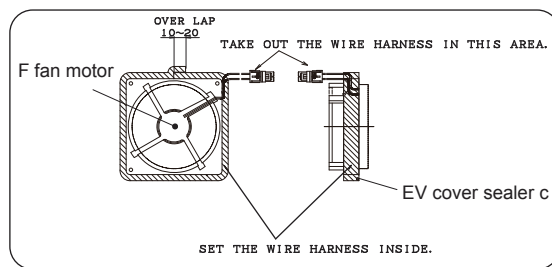

Figure A-2
- 1) Stick E.V cover sealer c to F fan motor. (Figure A-2)